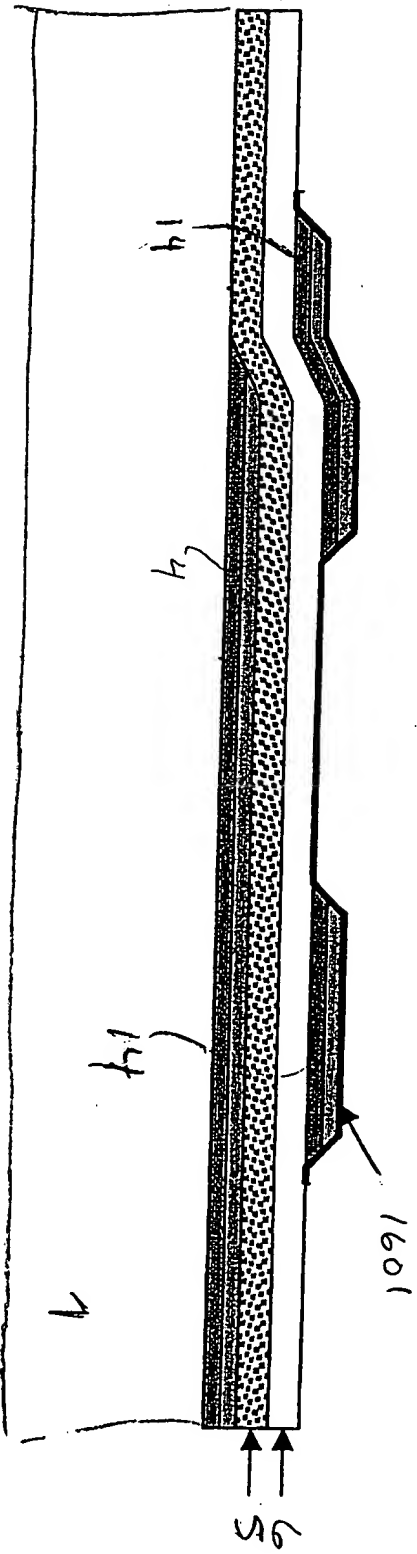
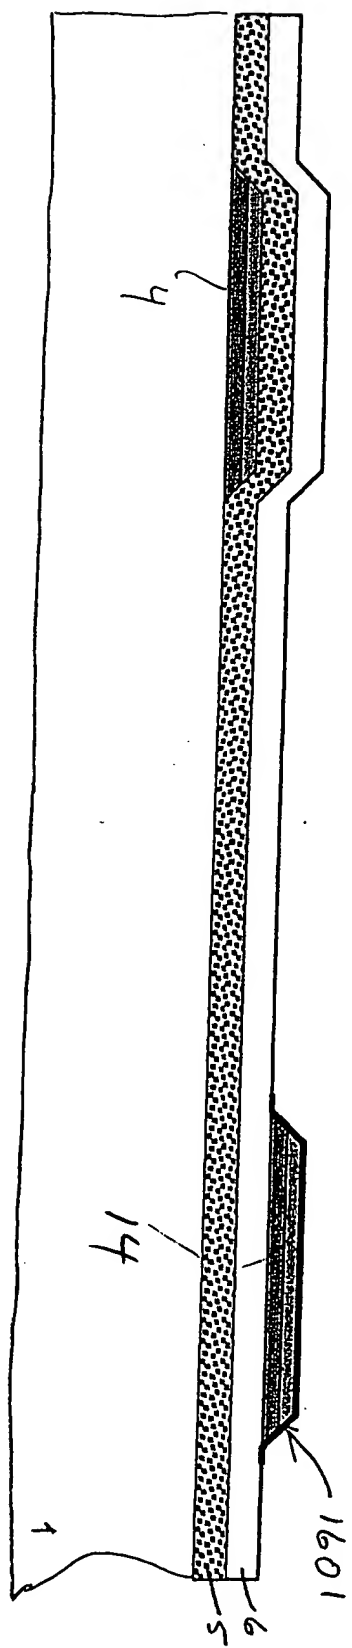

FIG. 16A
FIG. 16B
FIG. 16A and FIG. 16B are cross-sectional views of a layered structure. The structure includes a central layer (4) with a stippled pattern, flanked by layers (14). The entire assembly is contained within a larger frame (1). A protruding feature (1601) is located on the right side. At the bottom right, two arrows (5 and 6) point upwards.